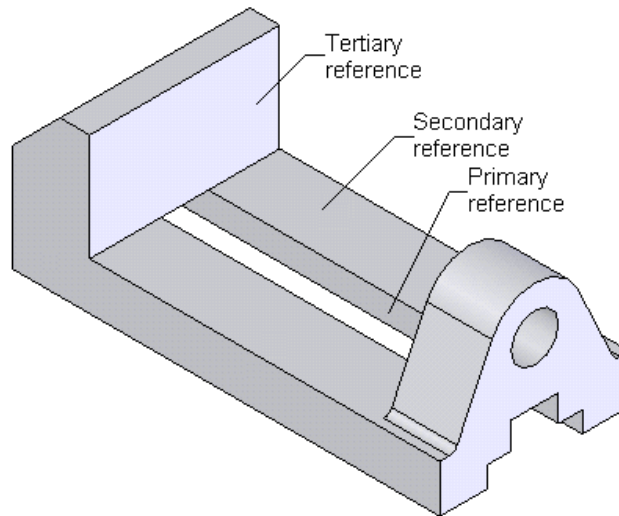

Figure 10-54 Faces to be selected as mate references
- Open Vice Body and Vice Jaw part documents and define the mate references in both part documents, refer to Figures 10-54 and 10-55
4. Select the planar face of the model shown in Figure 10-54 as the primary reference. The selected planar face is highlighted in green.
6. Select the planar face of the model shown in Figure 10-54 of the model as the secondary reference. The selected face is highlighted in magenta.
8. Select the planar face of the model shown in Figure 10-54 as the tertiary reference. The selected face is highlighted in blue.